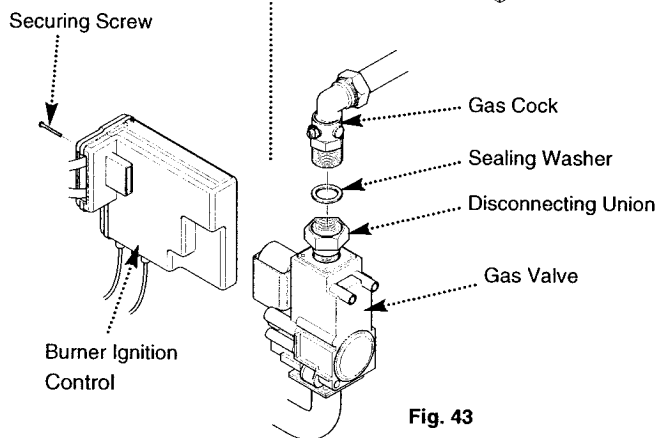

Fig. 43
1. Undo the disconnecting union on the gas inlet. Remove the screw securing the burner ignition control to the gas valve. Draw the control off the valve (Fig. 43).